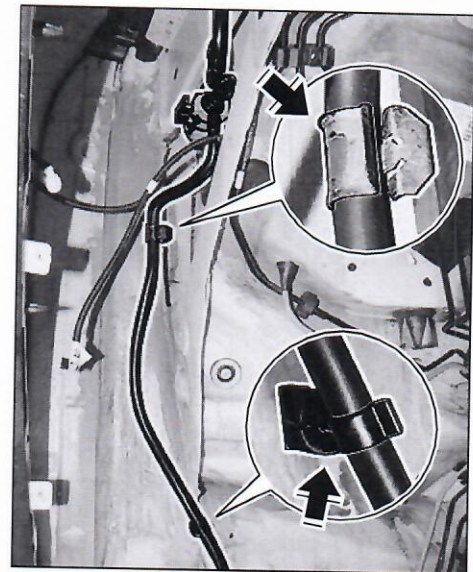

Figure 17
- Fit fixing clips ⇒ *Figure 17-arrows-* on the seam on the wheel housing.